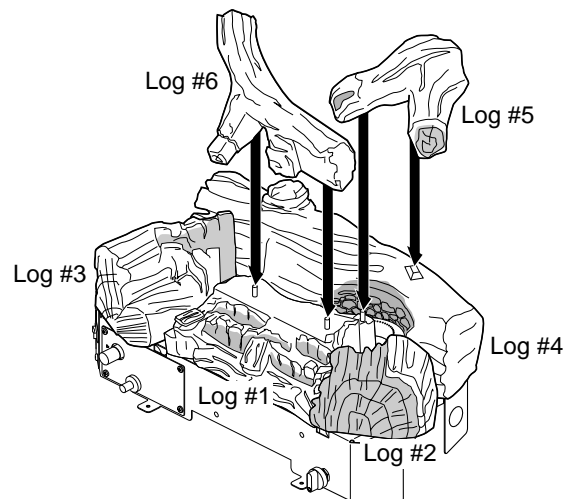

Figure 23 - Installing Log #5 (Right) and Log #6 (Left) (Model CSG3924NR Shown)
5. Place log #5 over knob on log #4 and across back part of log #1 and touch log #2 (see Figure 23).
6. Place log #6 onto two pin on log #1 (ember bed) and rest back of log #6 on back log #4 (see Figure 23).